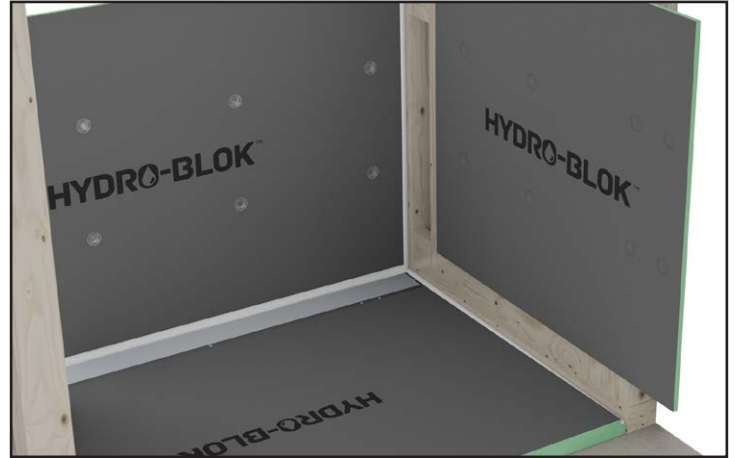

Fig. 24
10. When placing a new piece of Wallboard on top of an existing board, apply a ½" bead of joint sealant along the entire edge of the lower board. Press the new Wallboard firmly down into the Joint Sealant and hold it against the studs while installing a Washer and Screw (12" up from the seam close to the center of the board) to provide initial support (fig. 24). If the upper Wallboard is connecting to another previously installed Wallboard at the corner, first apply a ½" continuous bead of Joint Sealant to the existing board vertically at the corner as well and press the Wallboard being installed into the bottom and side beads of sealant at the same time.